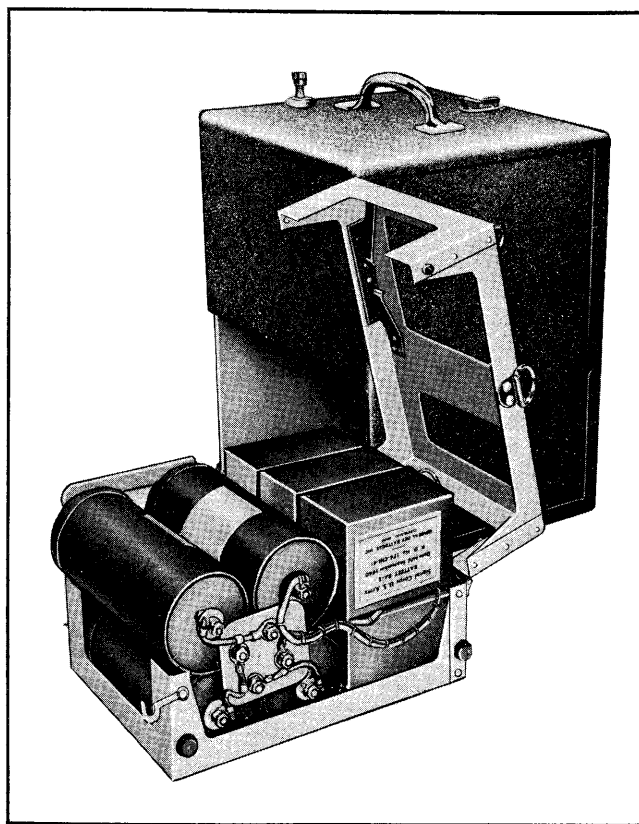

Figure 2-2. Frequency Meter BC-221-B—Loaded Battery Tray With Sections Separated To Show Installation
c. Pull out the battery tray by grasping the ring at the top of the tray. (See fig. 2-2.) Do not detach the cables.